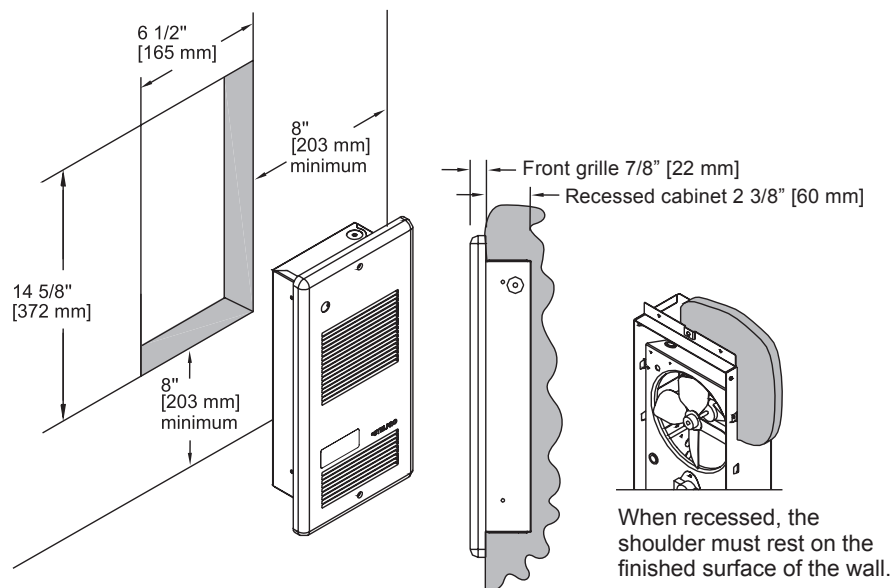

FIG. 3
4. Place the housing at the desired depth in the opening. Press it firmly onto the anchor and secure it with two (2) nails or screws. Remember to account for the thickness of the finished wall when you install the housing. The edge of the housing must be flush with the wall surface (FIG. 3).
7. Secure the inner part of the housing by tightening the four (4) screws removed in Step 3.